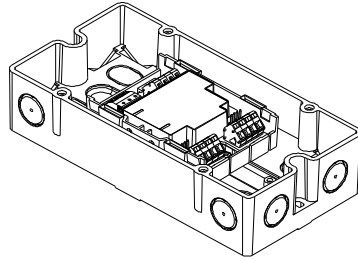

Fig. 10
- Installation outside a switching cabinet or a control unit: use FDCH221 housing (Fig. 10) .
3. Mount the housing on an even surface with two screws (Fig. 10). Distance between holes: $182.0 \pm 1.0\text{mm}$.